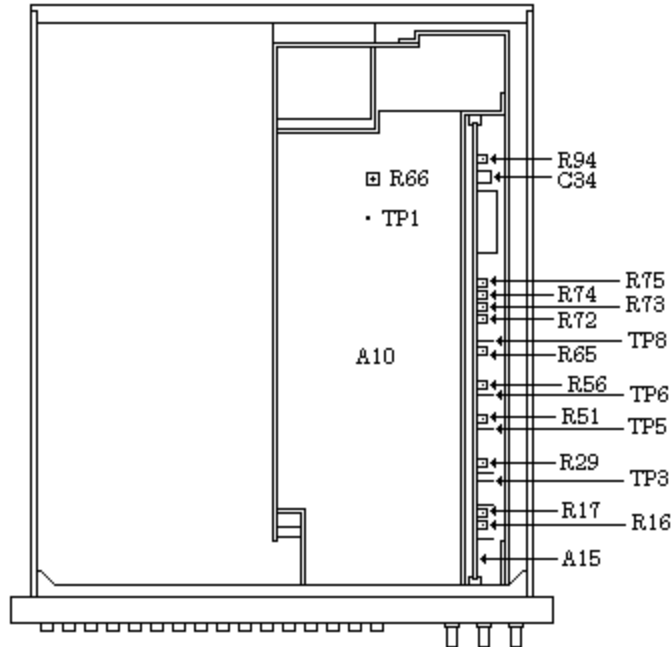

Figure 1. Test instrument - top view.
(4) Connect multimeter (V dc mode) **INPUT LO** to TI **INPUT (2 WIRE) LO** (inguard chassis) and multimeter **INPUT HI** to A10 TP1 (fig. 1).
(5) Adjust A10 R66 (fig. 1) until multimeter indicates 0 V dc $\pm 50 \mu\text{V}$.
(6) Disconnect multimeter.
(7) Press **RANGE 100** and **AUTO CAL** keys to on.
(8) If TI does not indicate 0.0000 V ± 1 count, repeat (3) through (7) above.
(9) Replace TI protective covers.
(10) Press **RANGE 1** key to on.
(11) Short **INPUT (2 WIRE) HI** and **LO** using copper wire or shorting bar.
- (12) Allow TI to operate at room temperature for at least 30 minutes.
- (13) TI will indicate 0.000000 V \pm 4 counts.
- (14) Remove short from **INPUT (2 WIRE) HI** and **LO**.